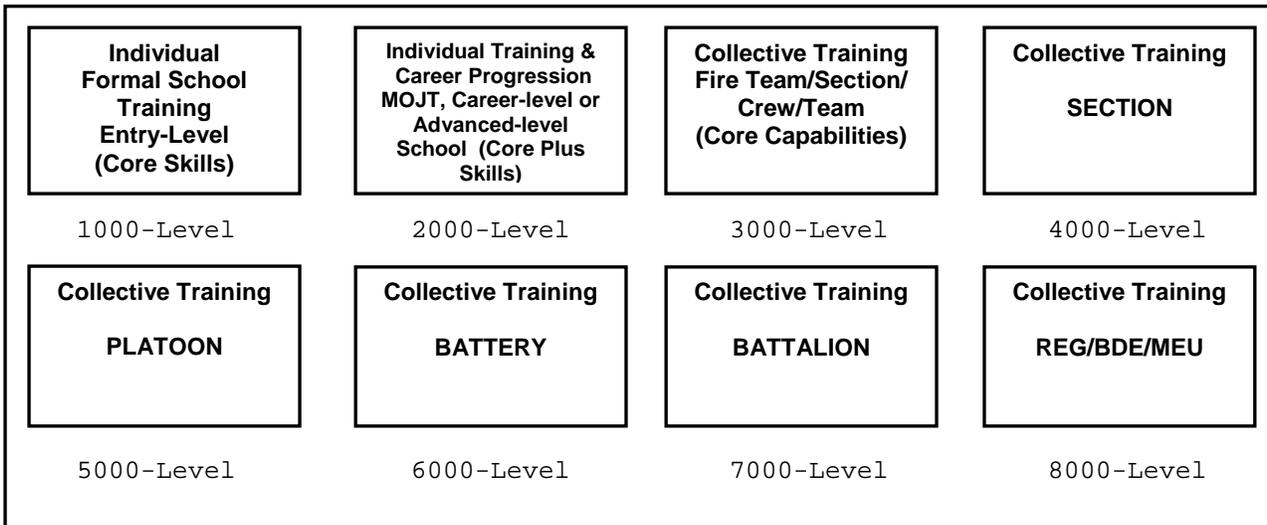
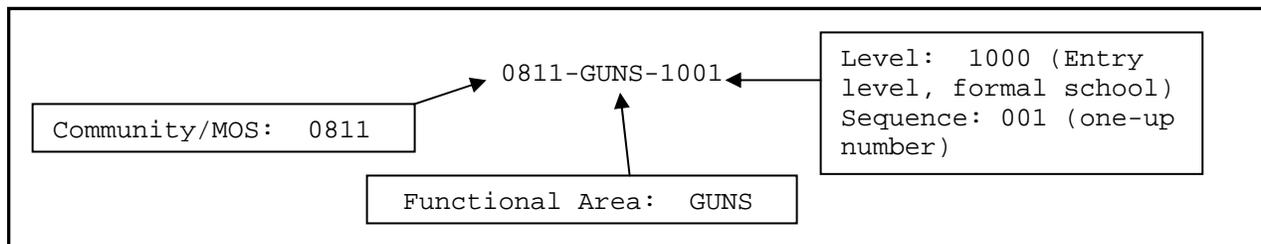

Figure 1: T&R Event Levels
Figure 2: T&R Event Coding
2. The T&R levels are shown in Figure 1. An example of the T&R coding used in this Manual is shown in Figure 2.